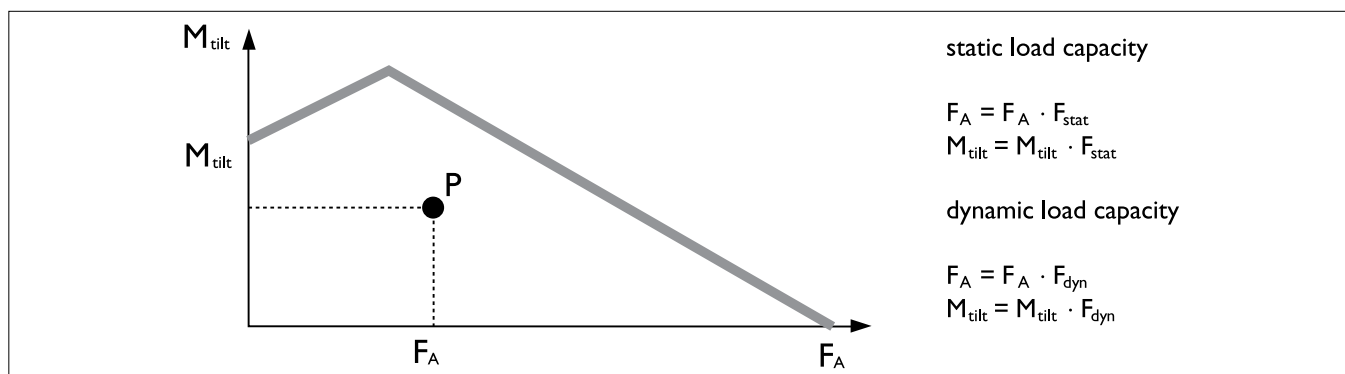

Fig. 3: limiting load curve
3. Bolt curves are valid for a specified number of bolts and bolt quality grade 10.9 (see fig. 3).
To get the effective operational loads, the nominal loads, static or dynamic, must be multiplied by the static load factor  $F_{\text{stat}}$  and the dynamic load factor  $F_{\text{dyn}}$ . The resulting loads  $F_A$  and  $M_{\text{tilt}}$  determine a load configuration point on the load curve graph, which must be inside the area circumscribed by the load curve of the bearing (see fig.3).